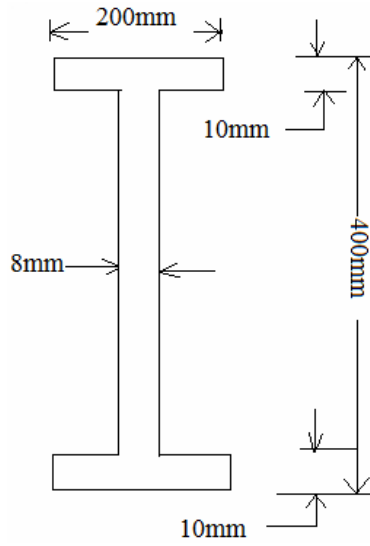

Fig.2
- b) The cross-section of beam is as shown in Fig.2, if permissible stress is 150N/mm^2 , find its moment of resistance. Compare it with equivalent section of same area but (a) Square section (b) Rectangular section with depth twice the width and (c) Circular section. [7+8]